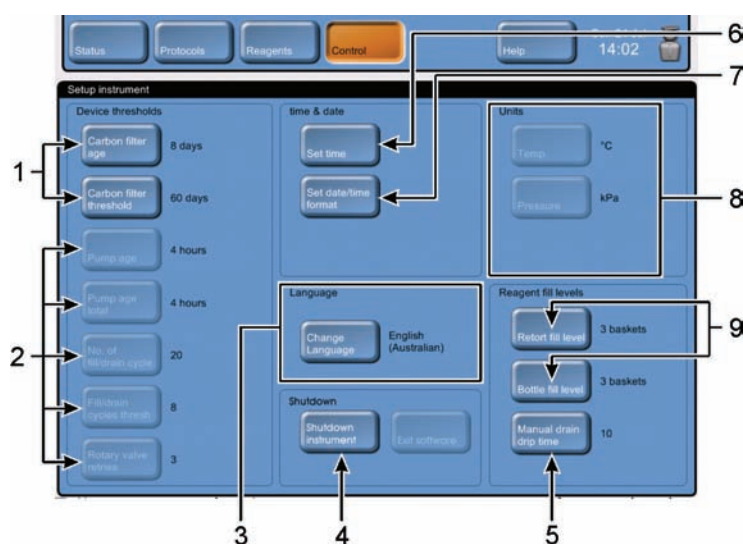

Figure 119: Instrument settings screen
The instrument settings screen is shown in Figure 119 and the items are described in the table that follows.
1. Select the **Set date/time format** button (see item 6 in Figure 119).